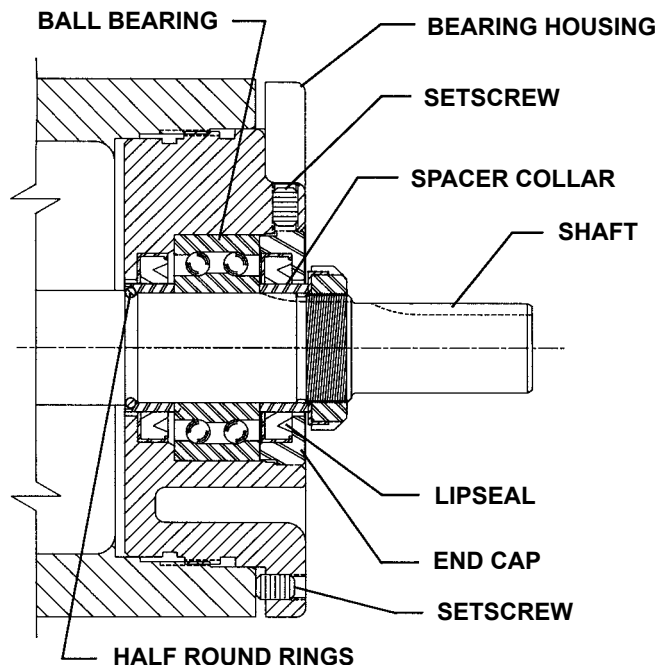

FIGURE 5
4. Loosen two setscrews in the face of the bearing housing and remove the bearing housing assembly from the bracket. **Refer to Figure 5 or 6, page 5.**
Refer to Figure 5 and 6 for bearing housing assembly.
6. **"LS" Pumps:** Pack the ball bearing with grease and push or press the bearing into the bearing housing. **Refer to Figure 5.**